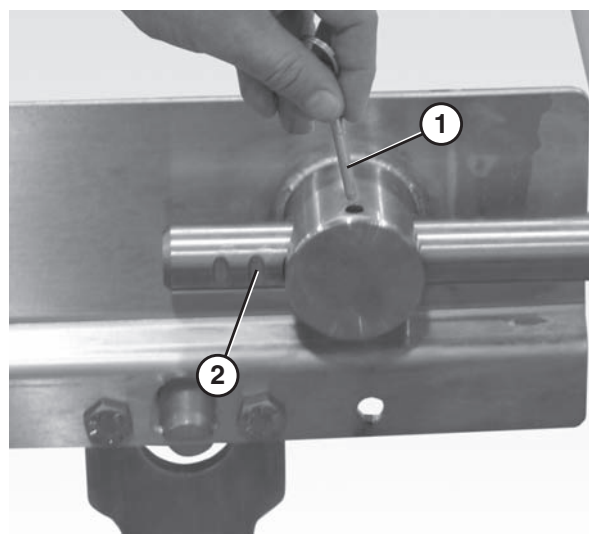

Figure 65
1. Remove both pull pins (**Figure 65, item 1**) on the tension end of the conveyor.
2. Extend the idler tail to the next groove (**Figure 65, item 2**) on the bearing shaft.